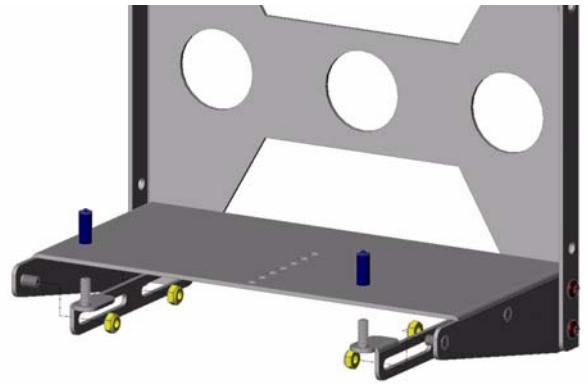

Figure 6. Install Shelf Components
8. Install black Vinyl caps (100) on left shelf support (30) and right shelf support (40) (see Figure 6).
9. Install left shelf support (30) on shelf (60) and secure using two 1/4-20 Nylock nuts (180) (see Figure 6).
10. Install right shelf support (40) on shelf (60) and secure using two 1/4-20 Nylock nuts (180) (see Figure 6).
11. Install shelf (60) between height adjustment assemblies and secure using four 1/4-20X1/2" button head cap screws (160) (see Figure 6).